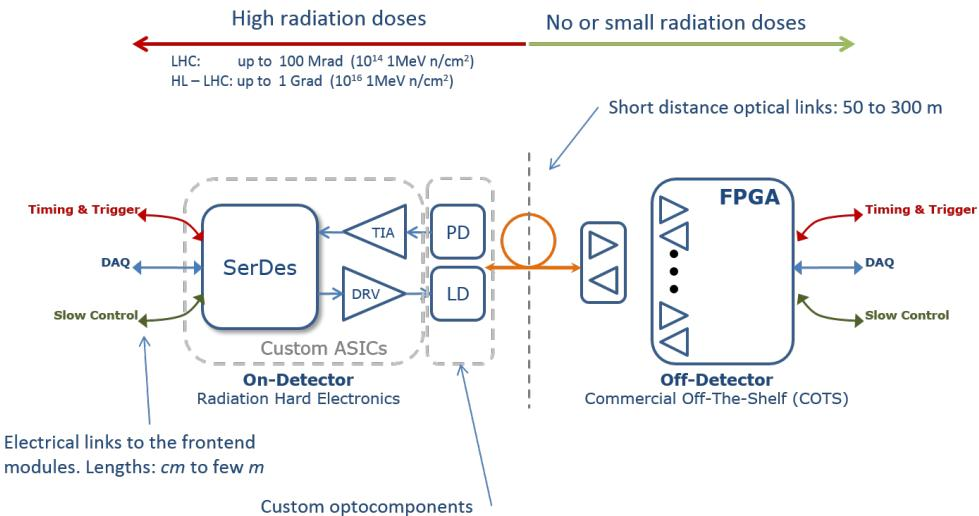

Fig. 1.1: Typical HEP Link Architecture
Logically the link provides three “distinct” data paths for Timing and Trigger Control (TTC), Data Acquisition (DAQ) and Slow Control (SC) information. In practice, the three logical paths do not need to be physically separated and are merged on a single optical link as indicated in Fig. 1.1. The aim of such architecture is to allow a single bidirectional link to be used simultaneously for data readout, trigger data, timing, experiment control and monitoring. Such an Architecture establishes a point-to-point bidirectional optical link (two fibres) with constant latency that can function with very high reliability in the harsh radiation environment typical of high energy physics experiments at LHC.
The link is implemented by a combination of custom developed and Commercial-Off-The-Shelf (COTS) components (Fig. 1.1). In the counting room the receiver and transmitters are implemented using COTS components and FPGAs. Embedded in the experiments, the receivers and transmitters are implemented by the IpGBT chipset and the VL+ optoelectronic components. This architecture clearly distinguishes between the counting room and front-end electronics because of the very different radiation environments. The on-detector front-end electronics works in a hostile radi-